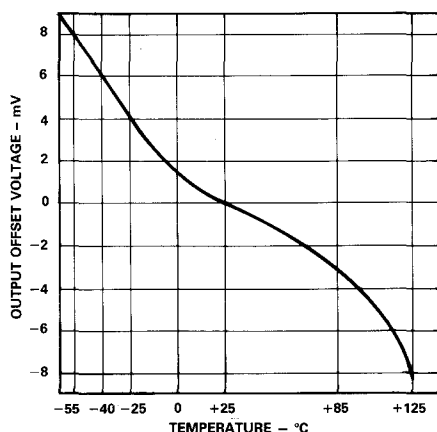

Figure 8. Output Offset Voltage (mV) vs. Temperature ( $^{\circ}\text{C}$ ) with  $G=1\text{ V/V}$
**Output Offset Voltage.** The AD203SN exhibits a low output offset voltage temperature coefficient over the  $+25^{\circ}\text{C}$  to  $+125^{\circ}\text{C}$  temperature range as shown in Figure 8.